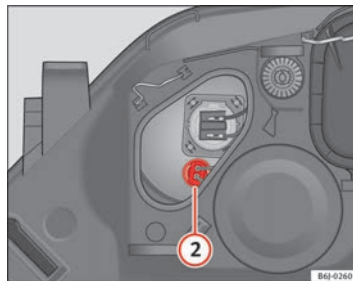

Fig. 158 Side lights
- Remove connector ⇒ Fig. 158 ② by pulling outward.